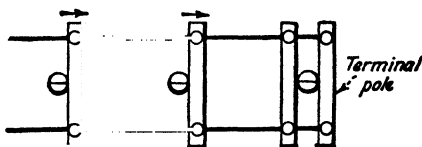

FIG. 11-42. Facing poles at terminals. Adjacent poles face terminal.
**Terminals.** Poles immediately preceding end poles shall face toward the end of the line (Fig. 11-42). The end pole, being a terminal pole, is usually of special construction. Sometimes it is well to have the last two poles face the terminal pole.